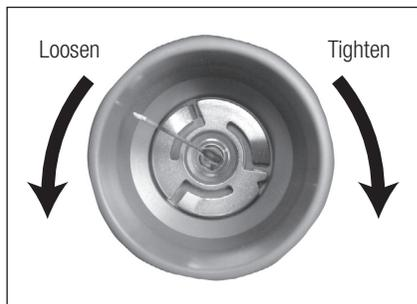

Fig.21
- 3) Rotate the wrench in the tightening direction, as shown in Fig. 21 and 22, until it makes a clicking sound as it spins without tightening any further.
To remove the Tip, rotate the wrench in the loosening direction shown in Fig. 21 and 22.